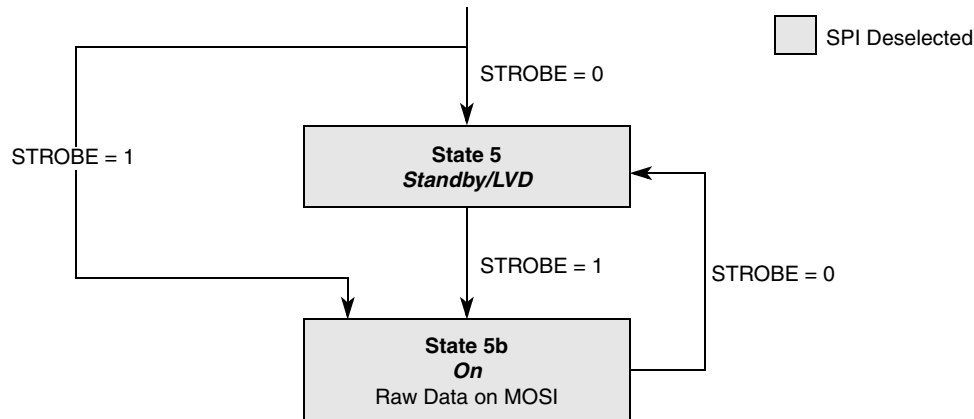
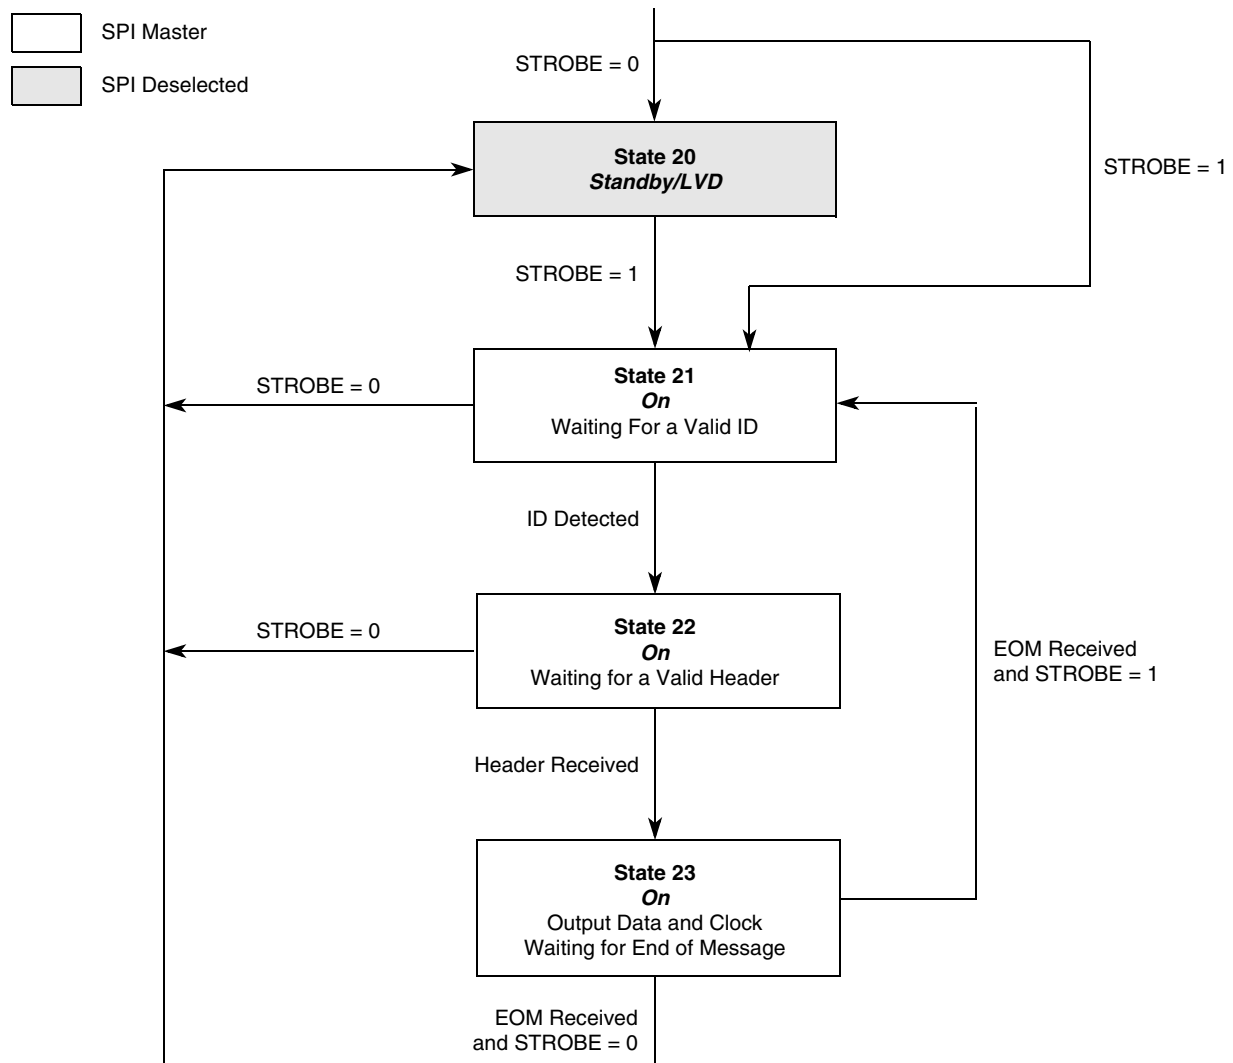

Figure 31. Receive Mode, DME = 0, SOE = 0
Figure 33. Receive Mode, DME = 1, SOE = 0
- External signal and internal conditions: see Figure 31 and Figure 33 for information on how to enter standby/LVD mode.
Raw received data are sent directly on the MOSI line. Figure 31 shows the state diagram.
Figure 33 shows the state diagram when the data manager is enabled and the strobe oscillator is disabled. In this configuration, the receiver is controlled only externally by the MCU.